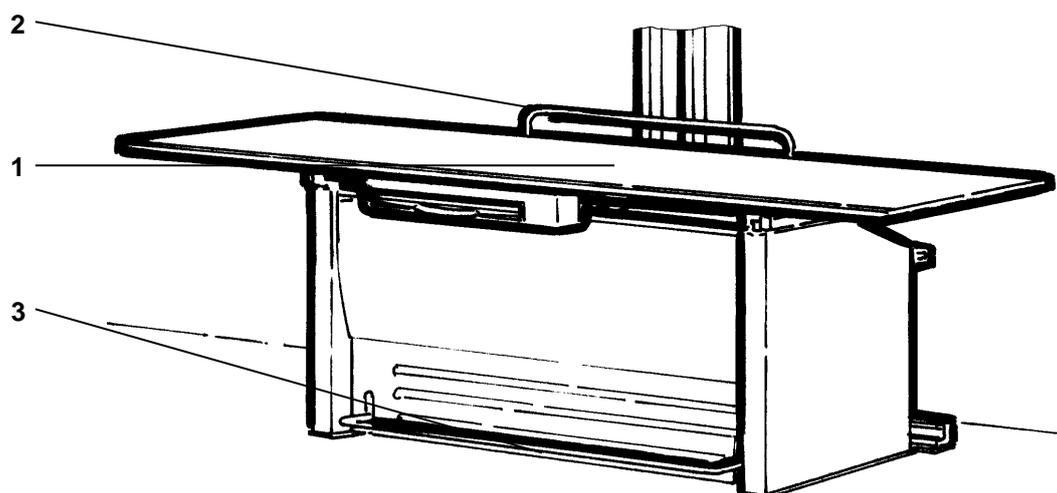
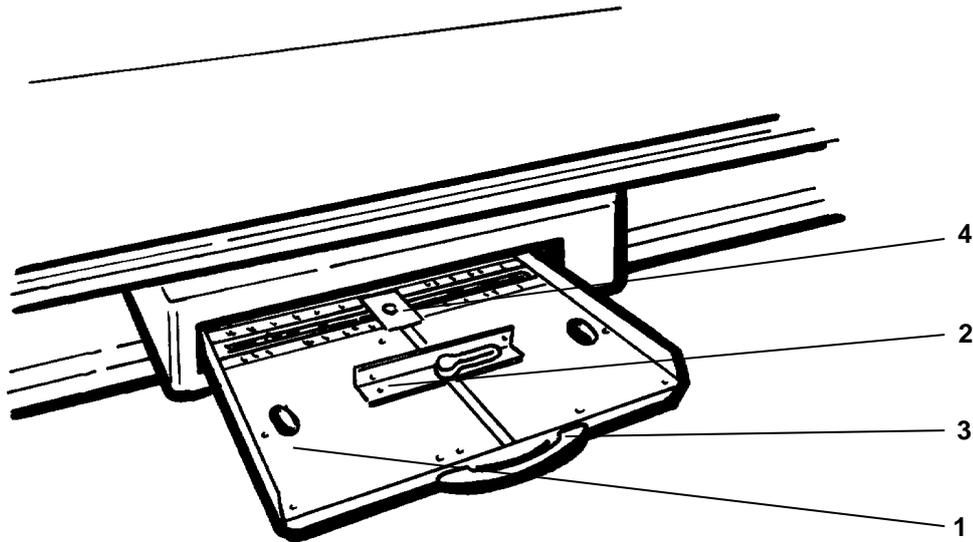

Figure 2-1
Figure 2-2
The long handgrip (Figure 2-1/2) facilitates the patients getting on and off the bucky table.
Release the tabletop brakes by stepping on the foot-operated brake release pedal bar (Figure 2-1/4) to position the floating tabletop (Figure 2-1) manually.
Bring the tabletop (Figure 2-1) into the forward position before getting on or off the patient!
The bucky unit consists of a cassette tray (Figure 2-1/2). The cassette tray positions the cassette in the bucky unit.
Pull out the cassette tray (Figure 2-1/2) by its handle (Figure 2-3/2) from the bucky unit until it hits the forward stop. Two cassette clamps (Figure 2-2/2) center the cassette transversely within the cassette tray. Insert the cassette, with its transverse centerline aligned with the notch in the cassette clamps (Figure 2-2/2). Use the handle (Figure 2-3/2) to push the cassette tray (Figure 2-1/2) fully into the bucky unit. Maximum bucky unit travel is 560 mm.
- Step on the brake release pedal bar (Figure 2-1/)
- Move the tabletop (Figure 2-1/1) into position for patients convenient getting on the tabletop.
- Release the brake release pedal bar (Figure 2-1/3) .
- Assist the patient in getting on and lying down on the tabletop (Figure 2-1/1)
- Step on the brake release pedal bar (Figure 2-1/3) and position the patient by moving the floating tabletop (Figure 2-1/1) .
- Step on the brake release pedal bar (Figure 2-1/3) .
- Move the tabletop (Figure 2-1/1) into position for patients convenient getting off the tabletop.
- Assist the patient in getting off the tabletop (Figure 2-1/1).
- The cassette clamps (Figure 2-2/2) center the cassette transversely within the cassette tray. Rotate its latch counterclockwise to unlock it.
- Open the cassette clamps (Figure 2-2/2) far enough to insert a cassette of the desired size.
- At table bucky insert the cassette, with its transverse centerline aligned with the notch in the cassette clamps (Figure 2-2/2) or by engaging the cassette positioner (Figure 2-2/4) in the size of the cassette corresponding detent (13 cm, 18 cm, 35 cm, 40 cm or 43 cm), push the cartridge to the cassette positioner (Figure 2-2/4)